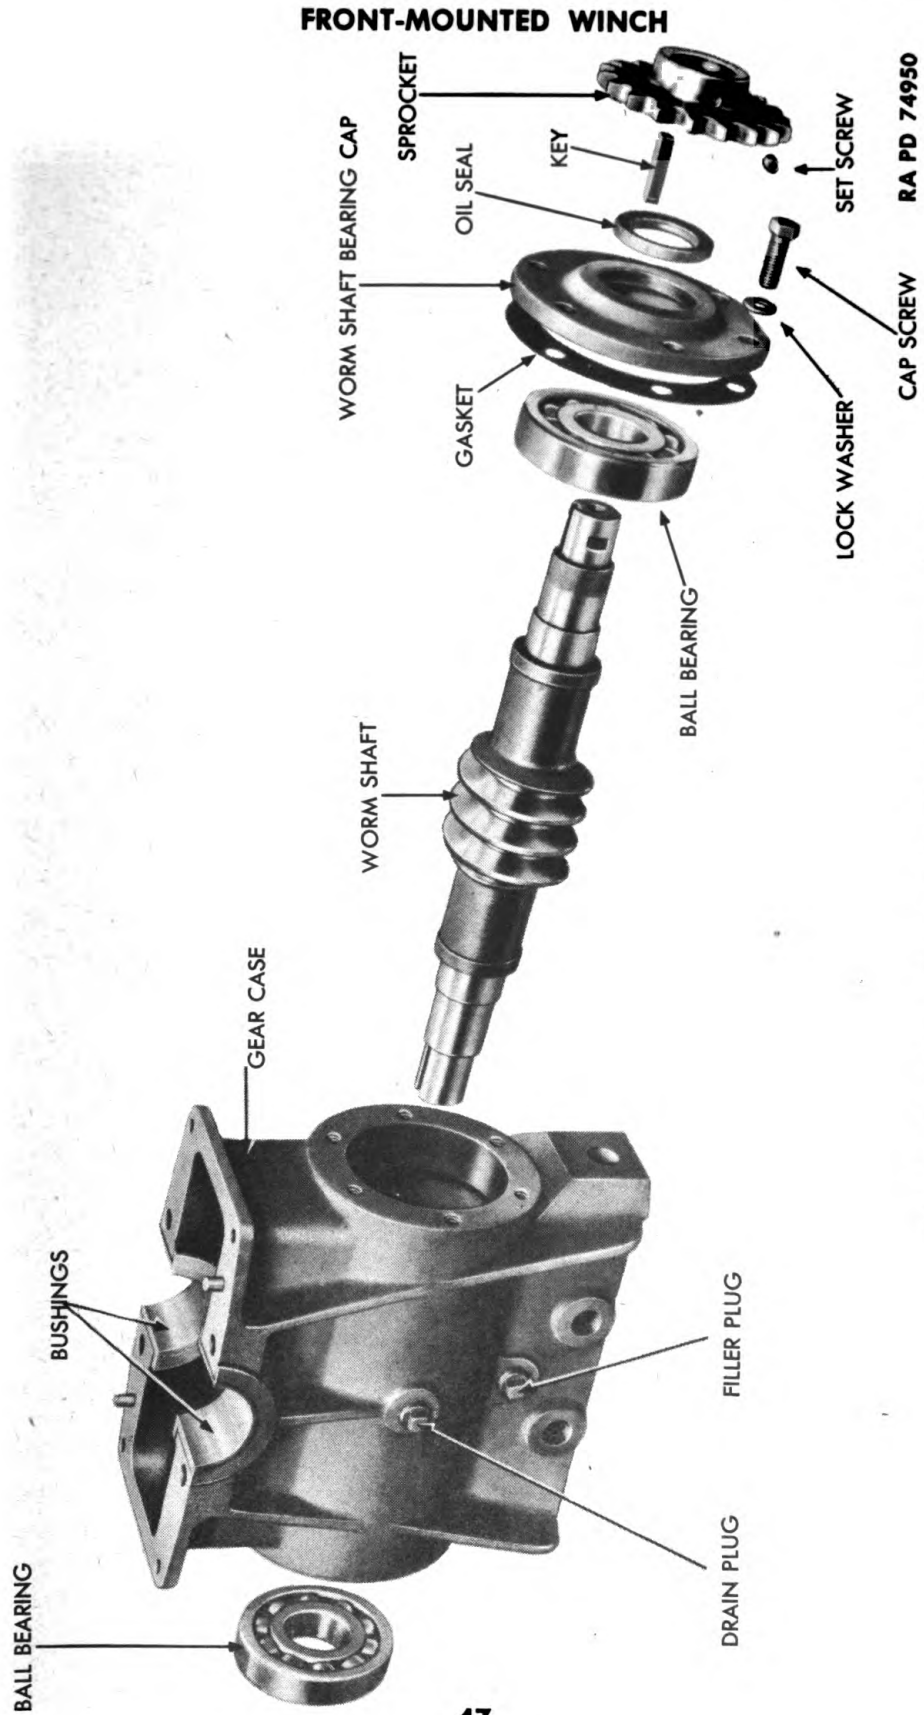

Figure 26 — Gear Case and Worm — Disassembled
(1) **REMOVE BRAKE CASE AND WORM SHAFT SPROCKET** (fig. 26). Remove six cap screws and lock washers that hold brake case to lower half of gear case. Remove case, then remove case gasket. Remove set screw and sprocket from worm shaft, and remove key.
(2) **REMOVE WORM** (fig. 26). Remove cap screws and lock washers that hold worm shaft bearing cap, and remove cap and gasket. Press oil seal out of worm shaft bearing cup. Drive worm shaft bearings and worm shaft out of gear case, then press two ball bearings off worm shaft.
(1) **INSTALL WORM** (fig. 26). Press bearings onto worm shaft, and press shaft bearings into gear case. Press oil seal into worm shaft bearing cap. Install gasket and bearing cap on case, and secure with cap screws and lock washers.